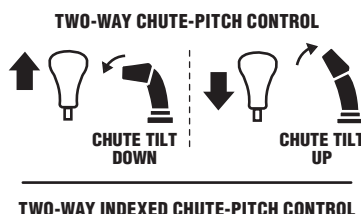

Figure 3-14
To change the upper chute angle to control the distance that snow is thrown, pivot the lever forward or backward. See Figure 3-14.
- To Reduce the Distance Snow is Thrown:** Move the lever forward to pivot the upper chute down. See Figure 3-14.
- To Increase the Distance Snow is Thrown:** Move the lever rearward to pivot the upper chute upward. See Figure 3-14.
- To Reduce the Distance Snow is Thrown:** Disengage lever from the current chute-pitch setting. Move the lever forward to pivot the upper chute down to the desired pitch setting (a). See Figure 3-14.
- To Increase the Distance Snow is Thrown:** Disengage lever from the current chute-pitch setting. Move the lever rearward to pivot the upper chute upward to the desired pitch setting (a). See Figure 3-14.